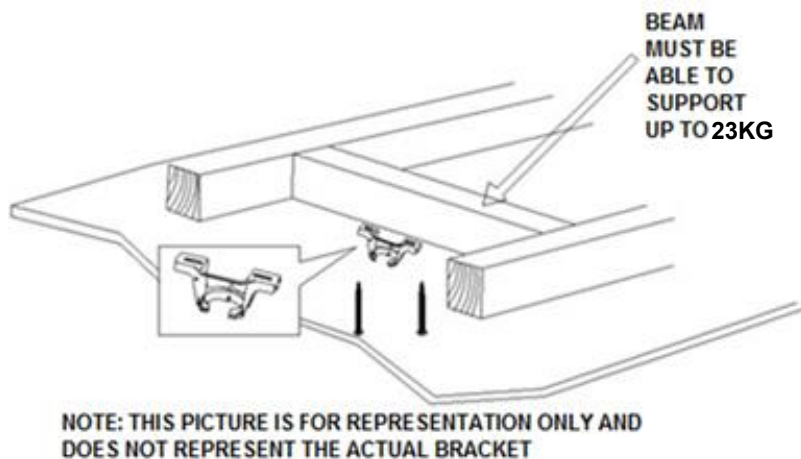

Fig. 2
- Install the hanging bracket to the ceiling joist or structure that is capable of carrying a load of at least 23kg, with two long screws provided. Ensure at least 30mm of the screw is threaded into the support. (Fig. 2)